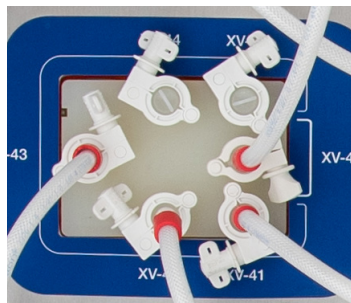

Figure 3. Fluid transfer assemblies attached to valve manifold.
- **Fluid transfer assembly (Figure 3)**—flexibility with choice of 1/4 in. or 3/4 in. ID